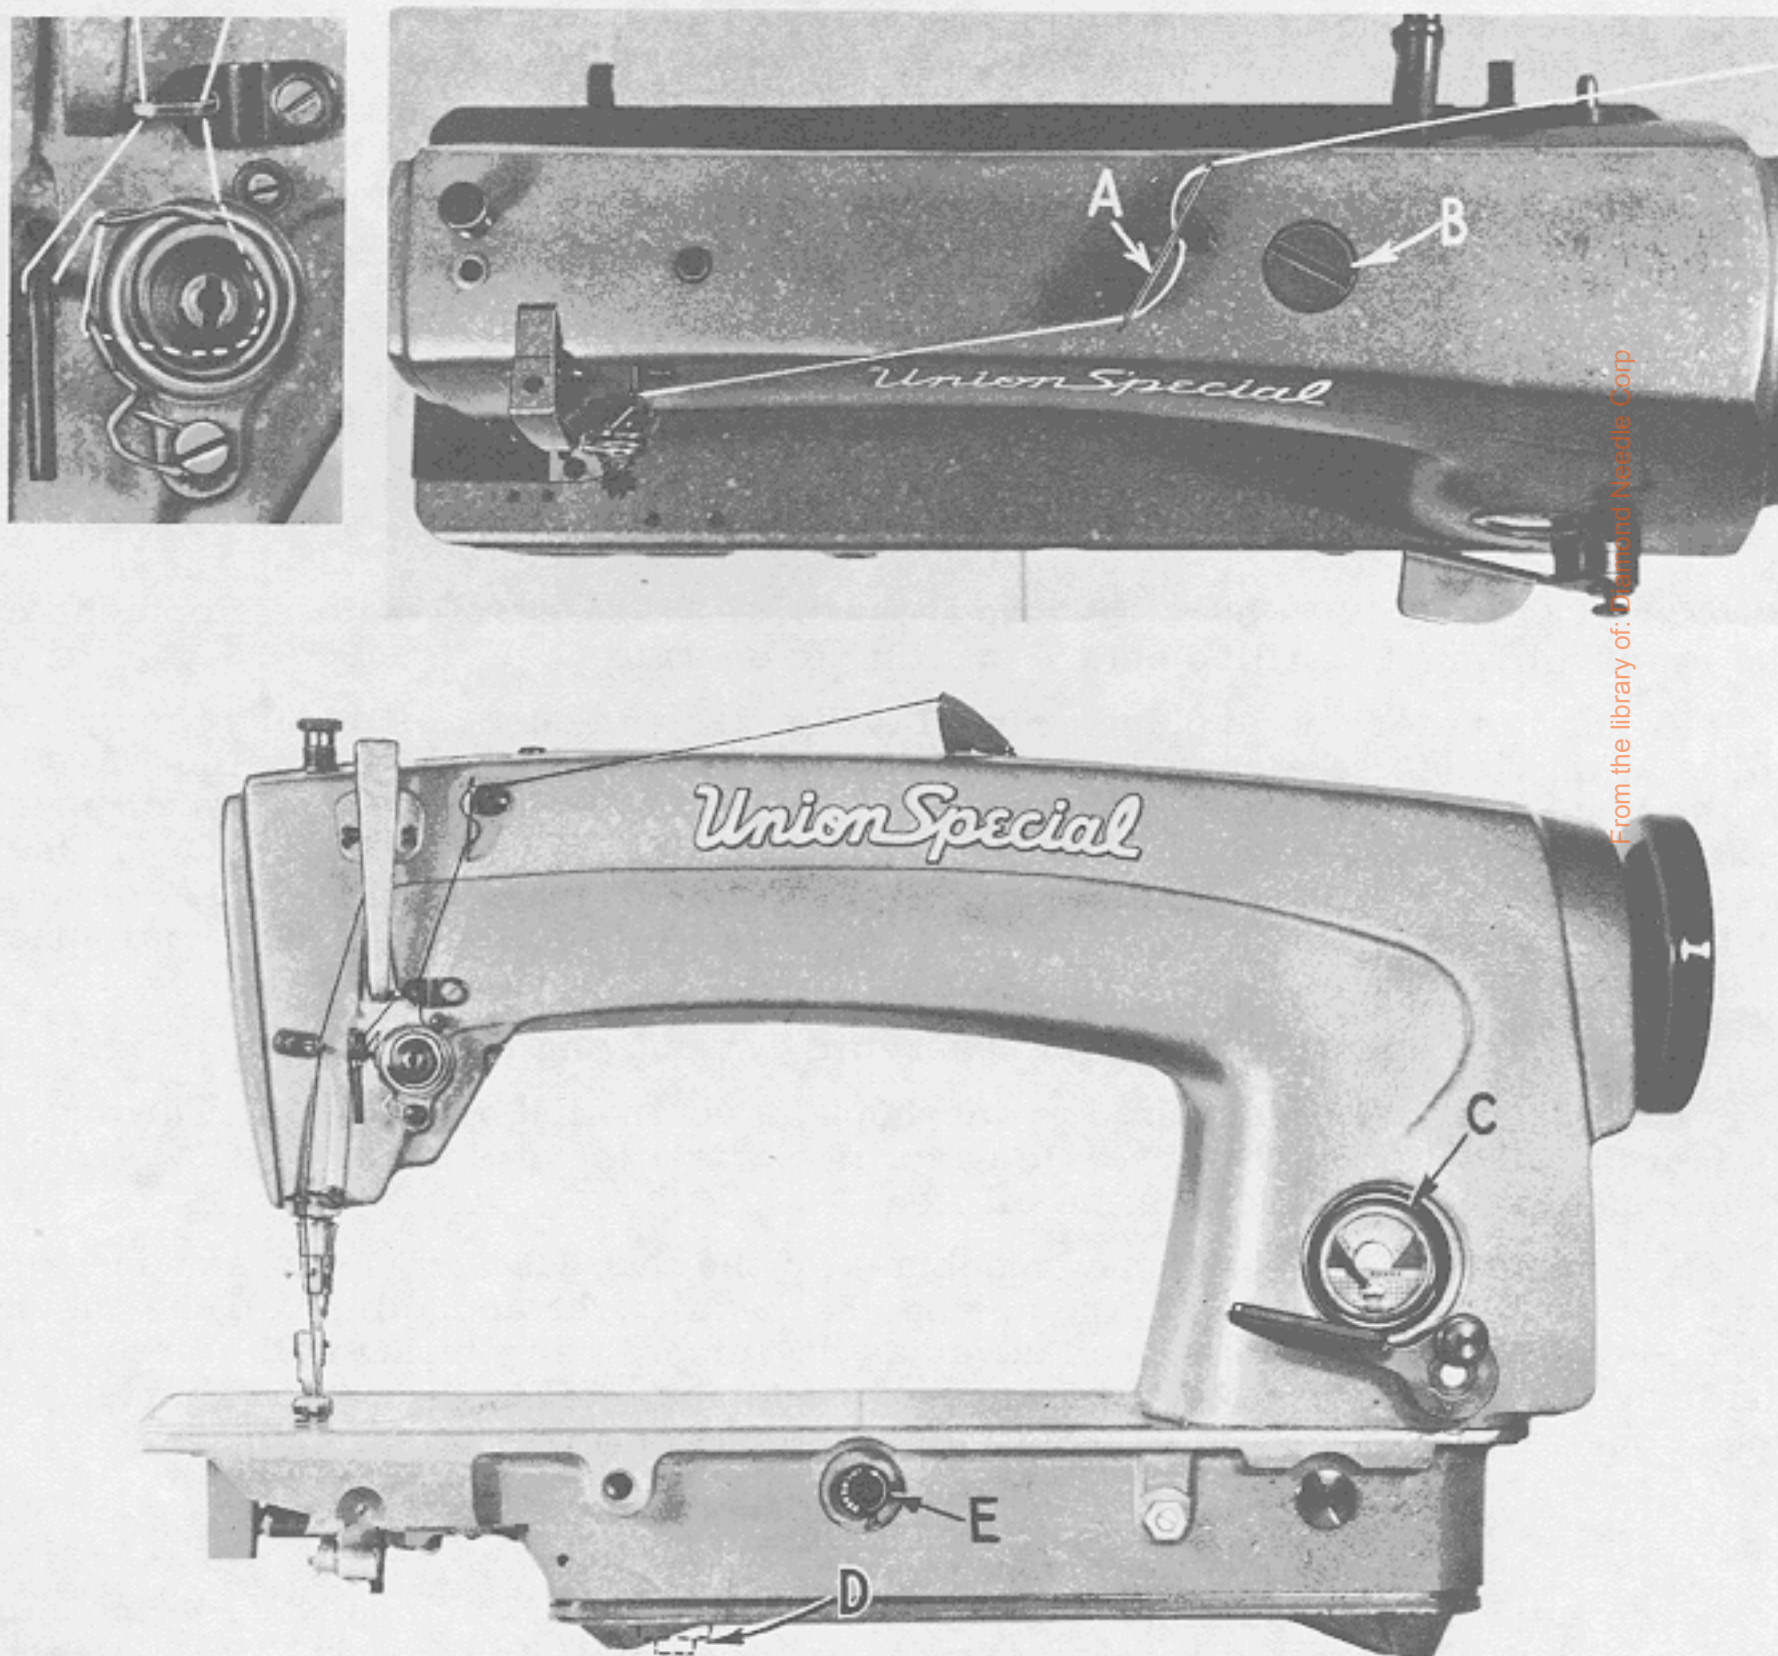

Fig. 2A
Thread machine Styles 63400 X and Y as indicated in Fig. 2A, noting that the thread passes thru the frame thread eyelet (A) thru the rear hole from right to left, thru the middle hole from left to right and then thru the front hole from right to left. Then it passes thru the next frame thread eyelet from right to left thru the upper hole, thru the middle hole from left to right and finally thru the lower hole from right to left. Machine Styles 63400 KX and KY are threaded thru the rear hole of frame thread eyelet (A) from left to right and thru the front hole from right to left, no threading thru the middle hole. On Styles 63400 KX and KY the thread then passes thru the next frame thread eyelet only thru the upper hole from right to left. Threading at check spring has been enlarged for clarity. Needle is threaded from left to right.
Fill main reservoir at plug screw (B, Fig. 2A) and check oil level at gauge (C). Oil is at maximum safe operating level when the needle is to the black line, located to the right of "OPERATE" zone, marked "FULL". Oil should be added when needle is to the black line, located to the left of "OPERATE" zone, marked "LOW". Use a stainless water-white straight mineral oil of a Saybolt viscosity of 90 to 125 seconds at 100°Fahrenheit in the main reservoir. This is equivalent to Union Special specification No. 175.
Oil may be drained from main reservoir by removing plug screw (D, Fig. 2A).